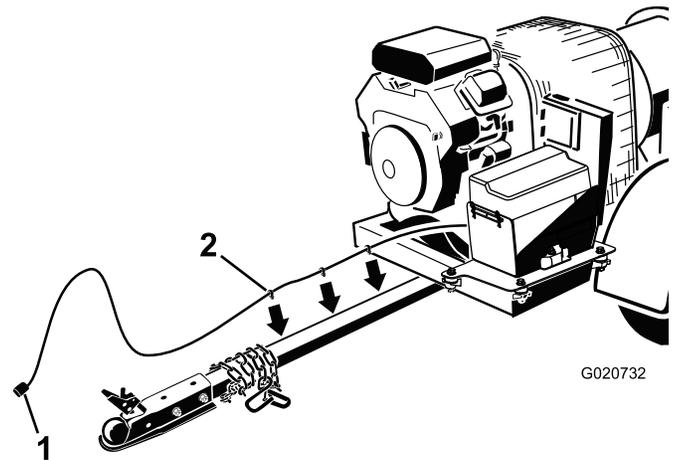

Figure 5
3. Route the wire harness along the right side of the hitch tube (Figure 5).
4. Plug the harness clips into the holes in the side of the hitch tube to secure it (Figure 5).